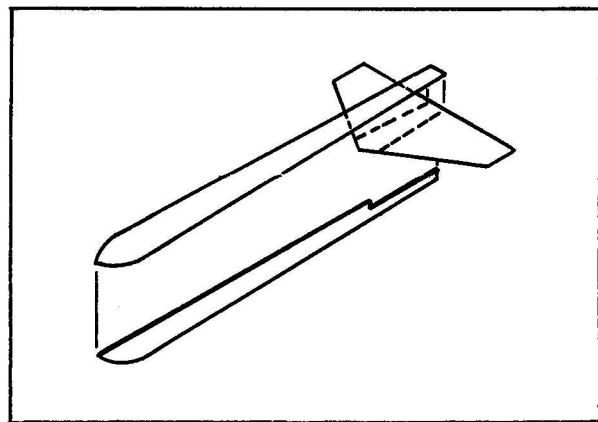

Figure 3
**Step 5.** If the construction of step 3 is dry, attach F-2 to it as shown in Fig. 3 and apply a liberal fillet of glue to the joint between F-1 and F-2. Set aside to dry.